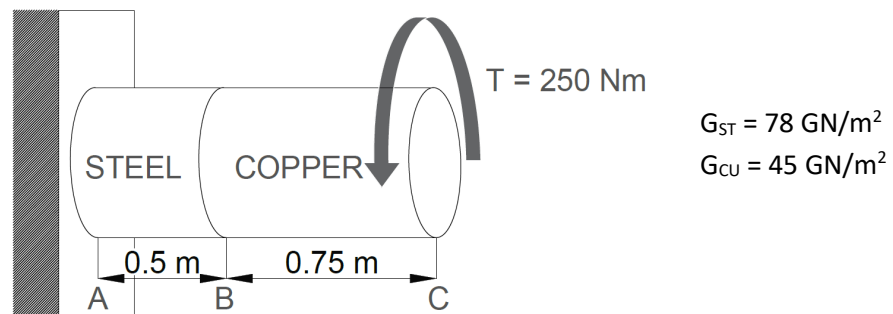

Figure 4(c) / Rajah 4(c)
- (c) Figure 4(c) depicts steel bar with a diameter of 50 mm and a length of 0.5 m connected in series to a copper bar. The copper bar has same diameter with steel bar and their length of 0.75 m. Both the bar carries a torsional load of 250 Nm. Consider the modulus of rigidity for  $G_{\text{copper}}$  is 45 GN/m2 and  $G_{\text{steel}}$  is 78 GN/m2. Compute: